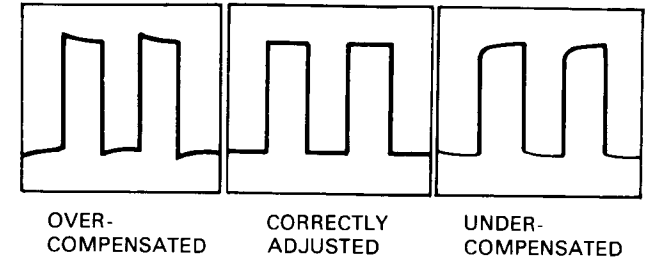

Figure 3. Divider Probe Adjustment Display
7. Adjust divider probe compensation for correct display (see figure 3).